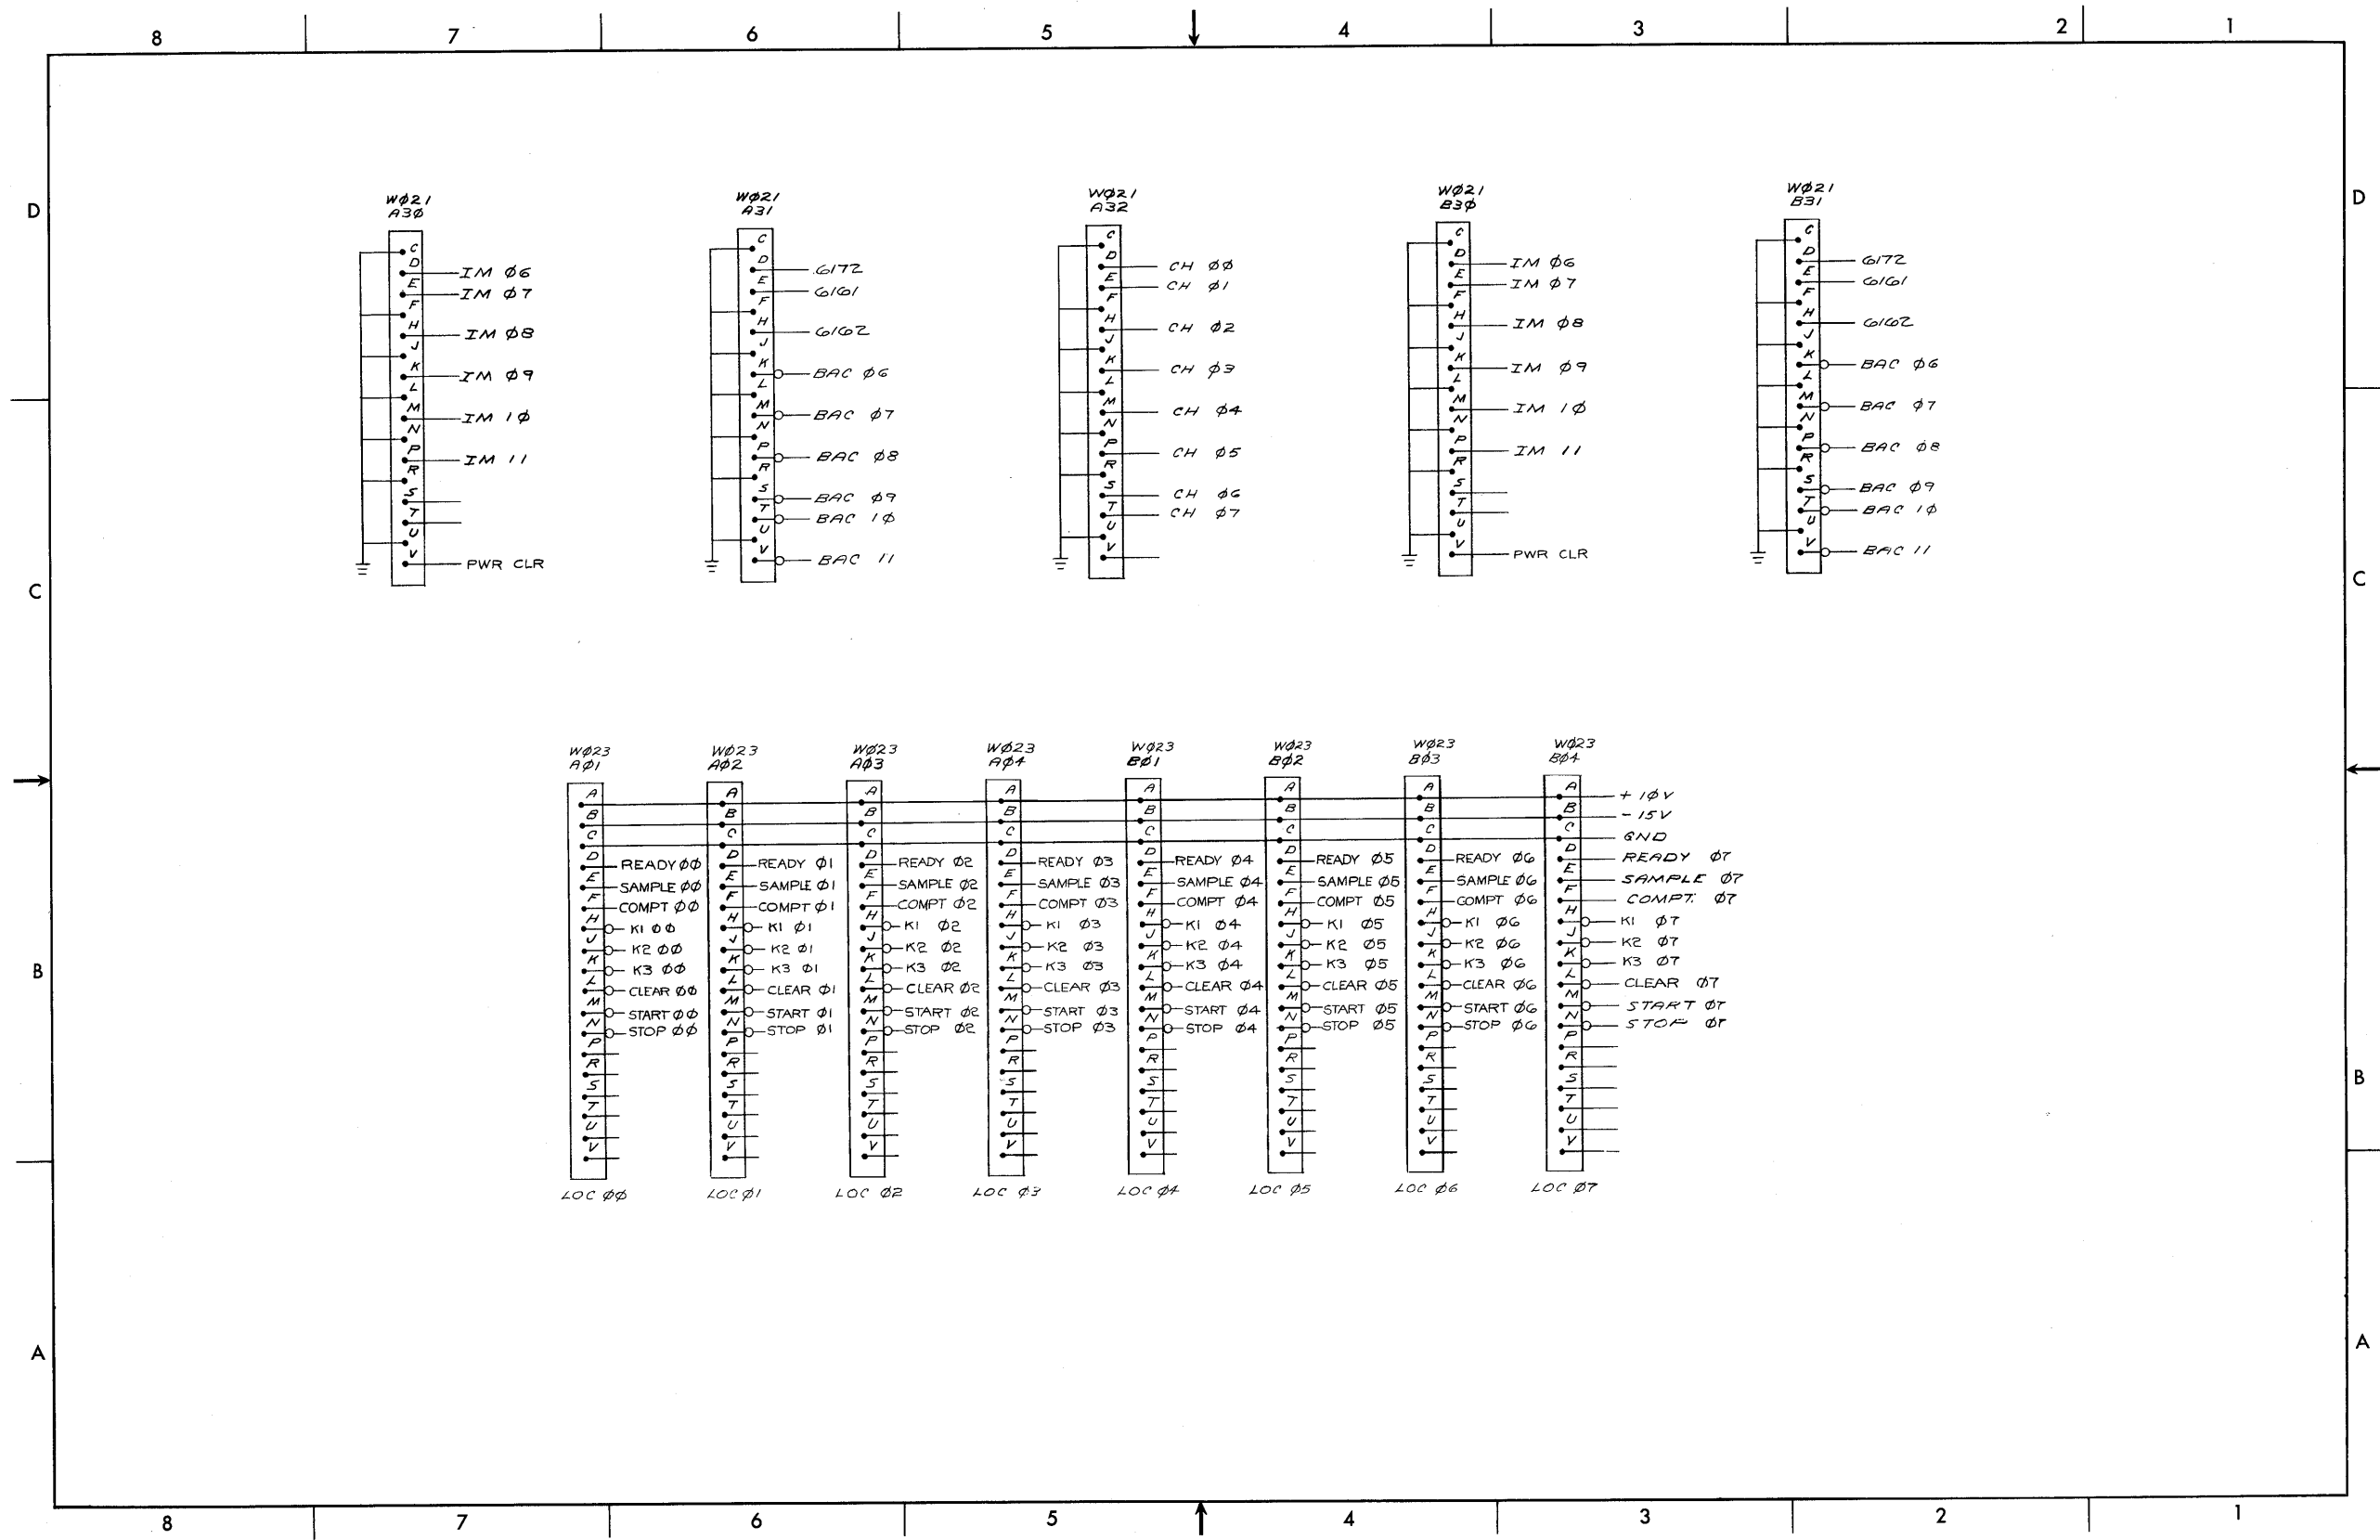

Figure 6-10 D-IC-AF17-0-4 H300 and H301 LO Control Cable Diagram
- Figure 6-10 H300 and H301 LOC Control Cable Diagram (D-IC-AF17-0-4)